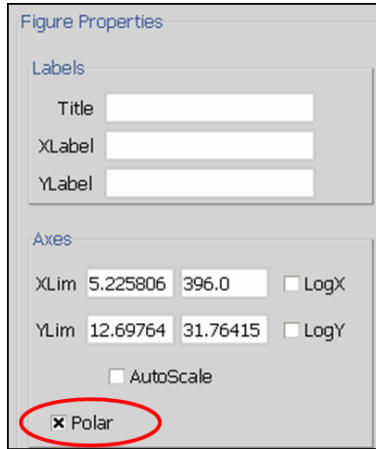

Figure 6.45: Polar representation for directivity curves
- *Select "Polar" in the figure properties window (Figure 6.45);*